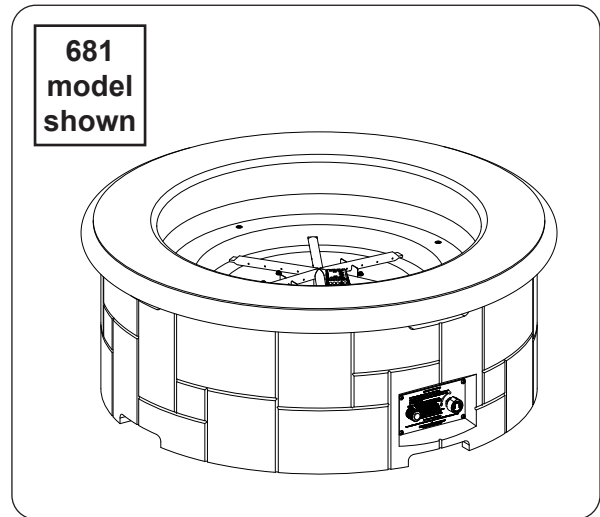

Fig. 28-1 Place unit
1. **CAREFULLY** place the unit in an appropriate location (see Fig. 28-1, and refer back to the LOCATION section if needed).